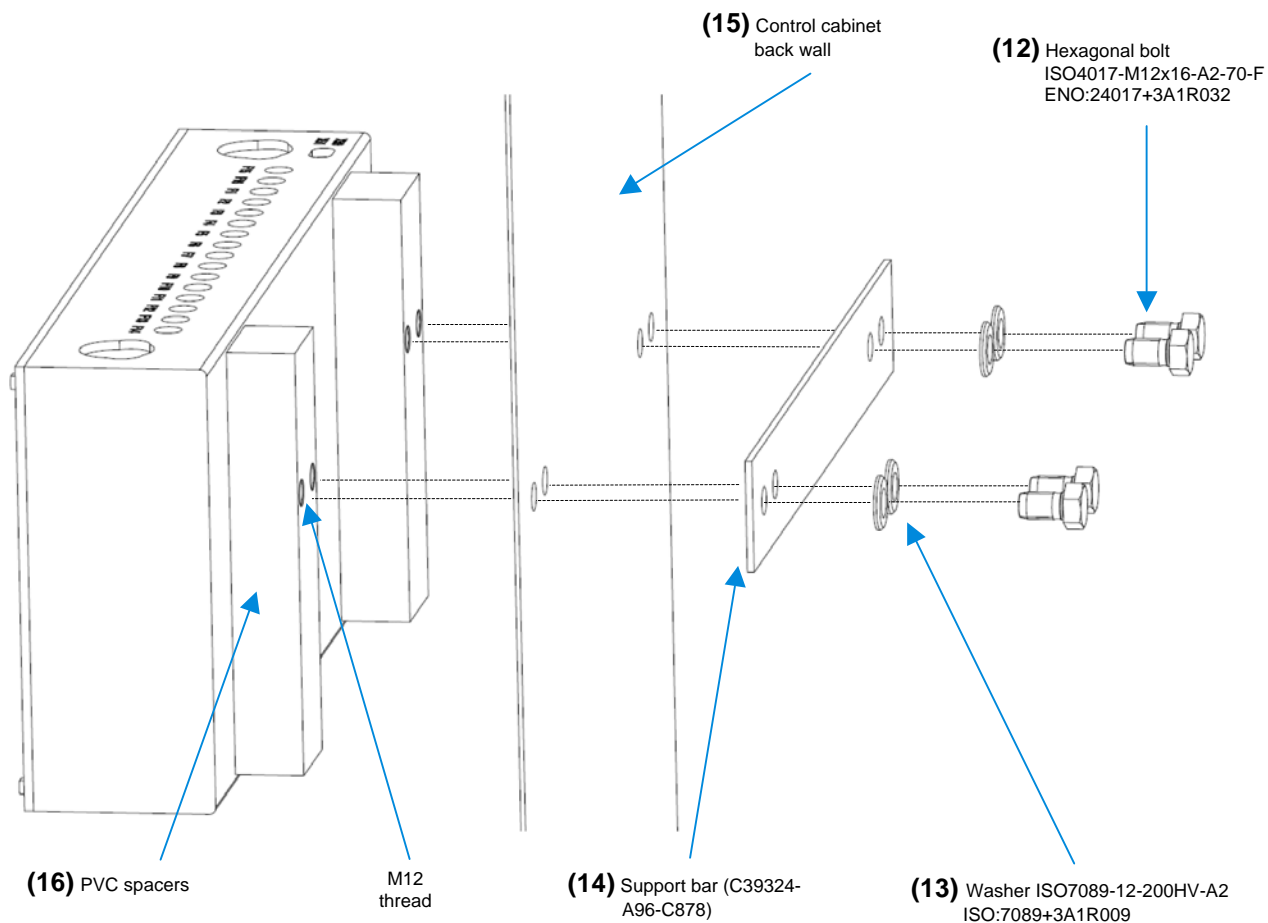

Fig. 6 - Control Cabinet Mounting
- Housing with two rear PVC spacers **(Fig. 6/16)** for cable feed through.
- Attachment to control cabinet back wall with 4 pcs. M12 hexagonal bolts **(Fig. 6/12)**.
The Power-D-Box is attached to the outside of the control cabinet's back wall by 4 pcs. mounting bolts DIN 933-M12x16, washers DIN 125-B13 and support bar C39324-A96-C878. The mounting bolts (Fig. 6/12) are screwed into the Power-D-Boxes' PVC spacers (Fig. 6/16), incorporating the control cabinet's interior back wall (Fig. 6/15), washers (Fig. 6/13), and support bar (Fig. 6/14). Max. tightening torque 16 Nm.